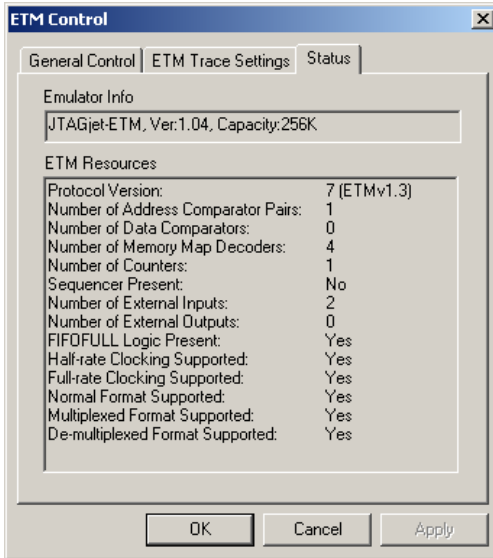

FIGURE 94 ETM Status tab showing the STR912F ETM resources
2. Select the **Status** tab to display information related to the ETM resources embedded into the target ARM device. Please read the contents of the information dialog box and note the description of the ARM device's ETM resources (Figure 94). These resources can vary substantially from one ARM device family to another. Oftentimes, locating such information in the device's data sheet is cumbersome.